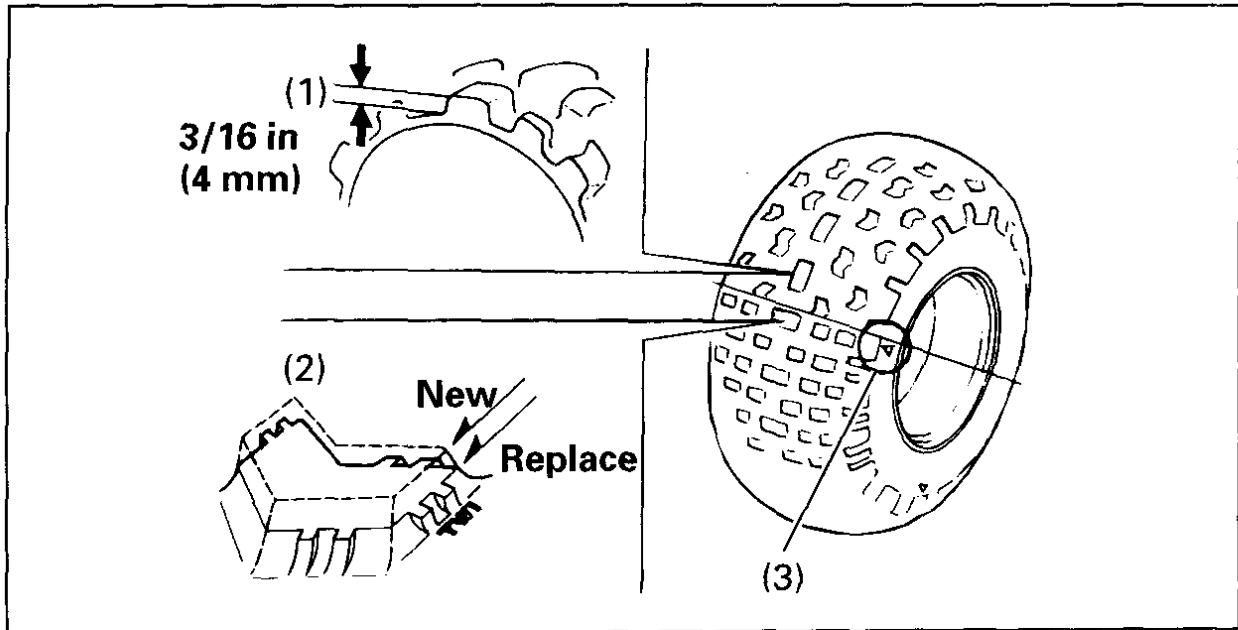

Fig. 4-36
To check the condition of a tire tread, measure the groove depth (1) (Fig. 4-36) in the center of the tire, or check the wear indicator (2).